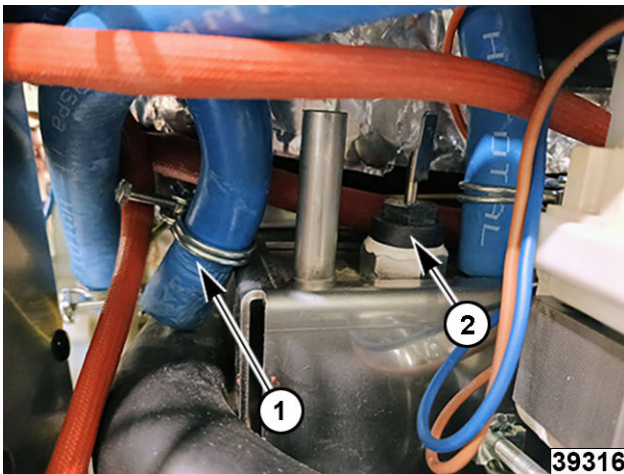

Fig. 42
5. Remove water level sensor (2, Fig. 42).